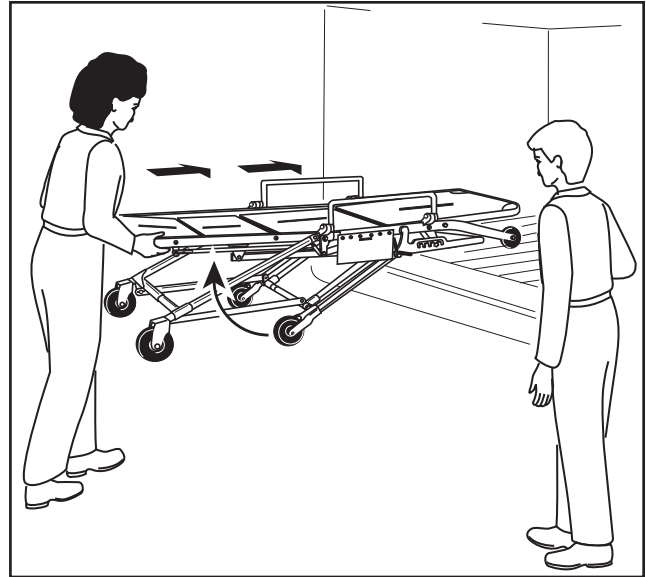

Figure 10 - Loading the Cot
3. **Control Operator:** Lift the foot end of the cot until it is level with the ambulance floor, then squeeze the control handle and push the cot completely into the patient compartment (Figure 10). The undercarriage will fold as the cot is pushed into the ambulance.